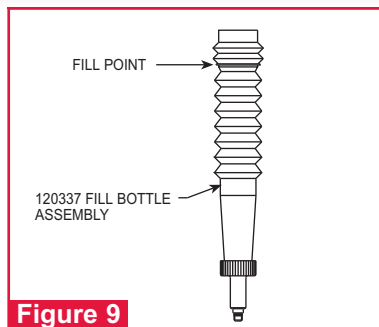

Figure 9
11. Hold Head/Handle (1) inverted in vice (with soft jaws). Place inverted Cylinder Assembly (35) on base of handle. Timing pin maintains orientation.
12. Assemble Gland assembly (25) with new seals (Fig. 9). Note orientation of polyseal. Apply Anti-Seize Compound (Huck P/N 508183) to threads of Gland Assembly. Screw gland into head/handle and Torque to 50 ft. lbs. using 1 3/8 socket wrench.
21. Place the tool upright on a level surface, drop Spring (49) into throttle valve bore in cylinder (35). Push Throttle Valve into cylinder.
22. Place ball end of Throttle Cable (2) into end of Throttle Arm (53), then slide Throttle Arm into slot on Cylinder (Fig. 9).
23. Snap Lever Guard (73) in place, and install Pivot Screw (48) in cylinder to retain throttle arm (53).
24. **2025 & 2025L:** Push Pintail Deflector (24) onto End Cap (21).